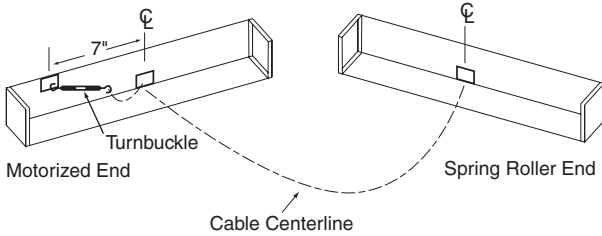

Figure 8
- ① Make sure Skylight unit is square.
- ② Fasten cable support plates to structure through outboard holes in plate (see Fig. 8). If #10 x 1 1/2" screws provided are not adequate, installer will need to provide fasteners appropriate to site conditions.
- ③ Attach loop at one end of cable to hook on cable attachment plate at spring roller headbox. Run cable the full length of the opening, and through the hole at the lower plate in the motor end headbox.
- ④ Attach remaining cable loop to turnbuckle, which in turn attaches to upper cable attachment plate in motor end headbox.
- ⑤ Tension cable by tightening turnbuckle until cable is straight. NOTE: Do not overtighten, but make sure cable is as taut as possible.